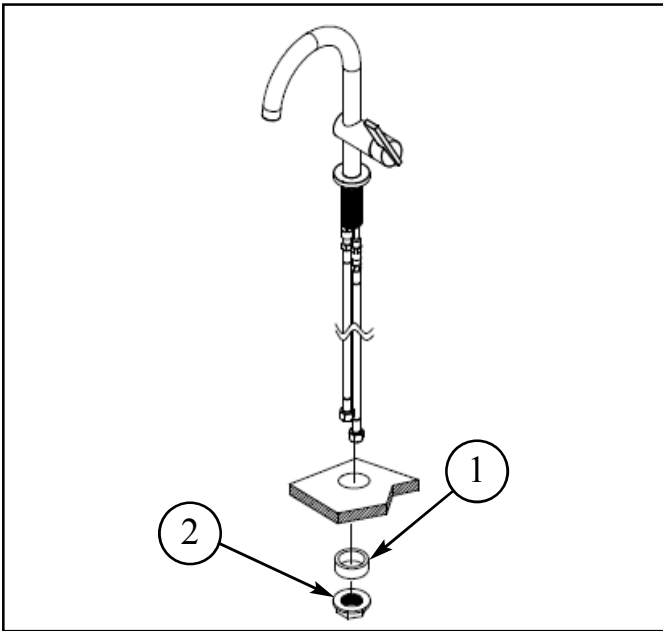

Figure 1
1. Place the spout hoses, one at a time, and secure spout into place with ADAPTER(1), SPACER(1) and flange NUT (2). See Fig. 1